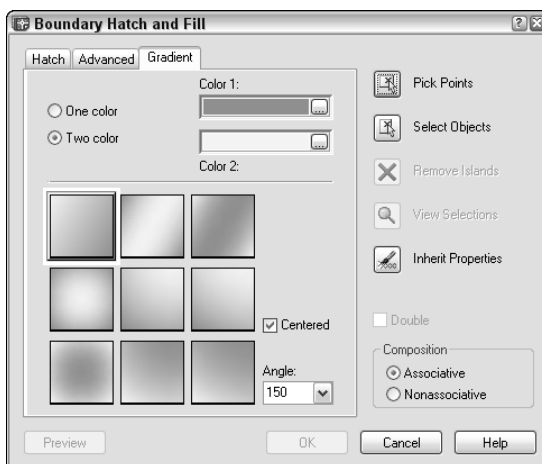

Figure 16-27: Use the Gradient tab of the Boundary Hatch and Fill dialog box to create gradient fills of closed objects.
2. Click the Gradient tab, shown in Figure 16-27.